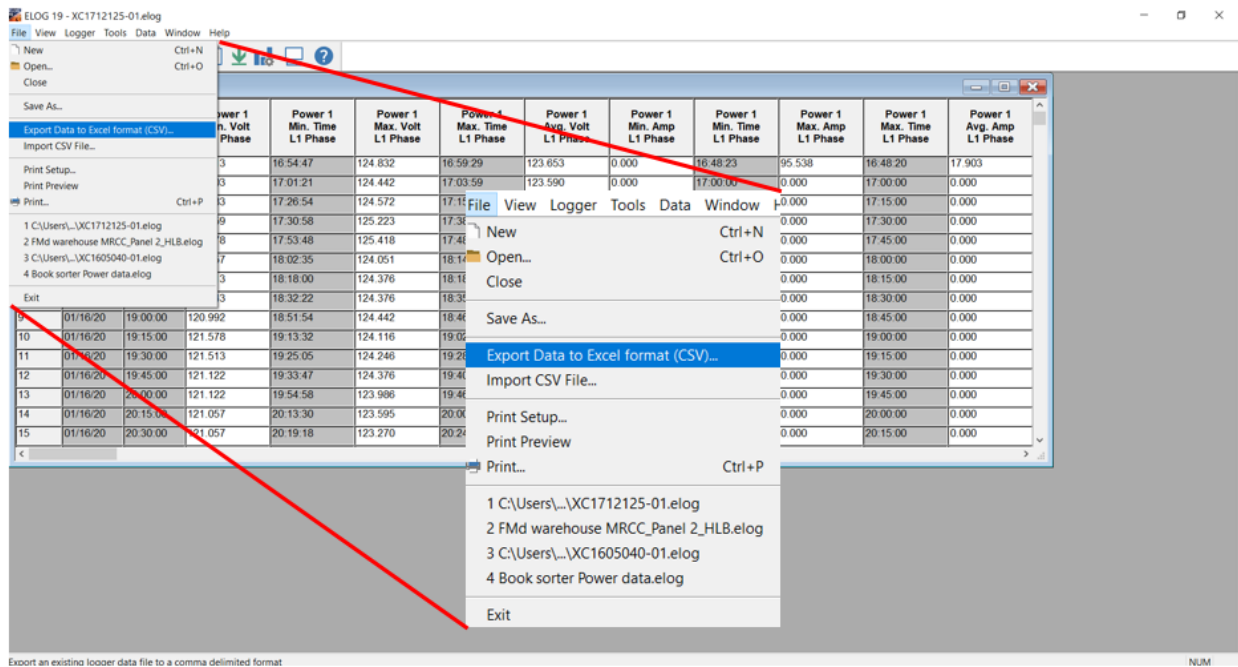

Figure A.3.18: Export data to .csv format in ELOG19.
- Click “File” > “Export Data to Excel Format (CSV)” as shown on Figure A.3.18.